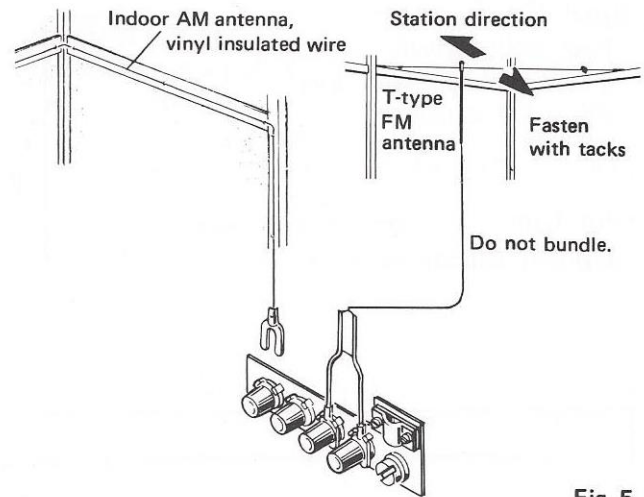

Fig. 5
- As shown in Fig. 5, connect the T-type antenna to the 300Ω antenna terminals. Spread the two arms of the antenna horizontally and while listening to an FM station, position them for best reception. The antenna can then be taped to a wall or ceiling.
If reception is difficult with the bar antenna, an indoor AM antenna can be erected with vinyl insulated wire as shown in Fig. 5.